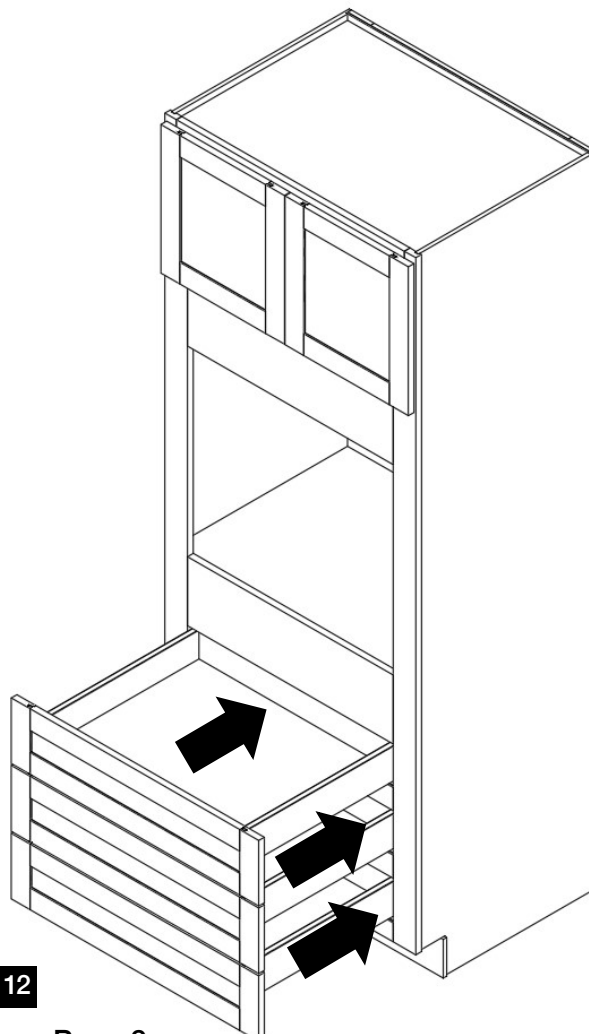

Figure 12
Insert the assembled drawers (H) onto the glides. Push in until you hear clicks from the drawer clips locking into the glides. (Figure 12)